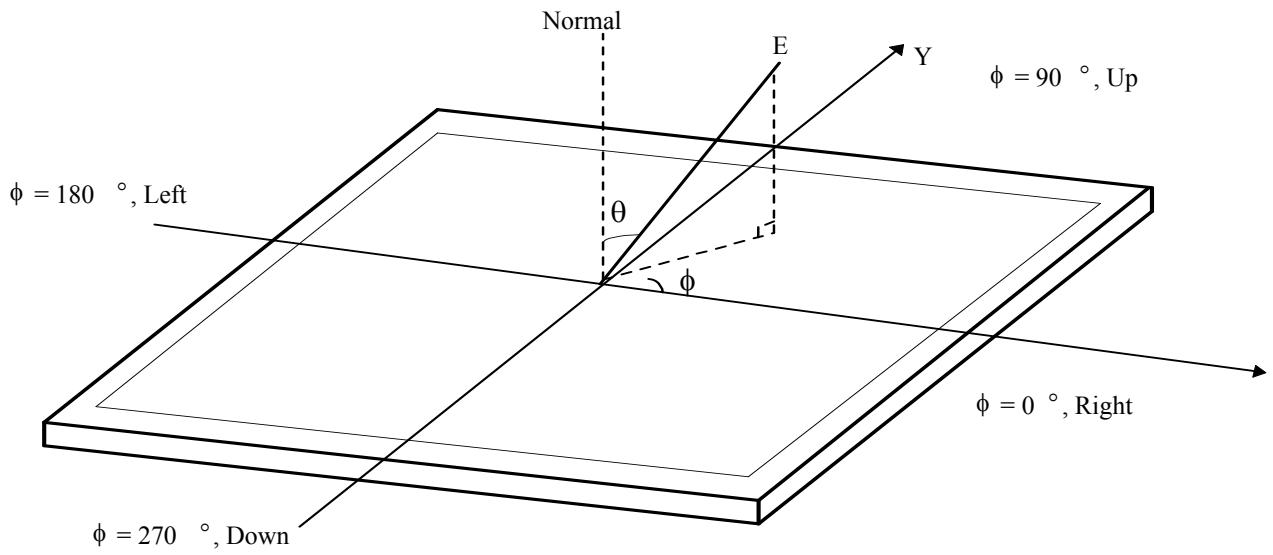

FIG.12 Viewing Angle
5. Viewing angle is the angle at which the contrast ratio is greater than 10. The angles are determined for the horizontal or x axis and the vertical or y axis with respect to the z axis which is normal to the LCD module surface. For more information, see the FIG. 12.